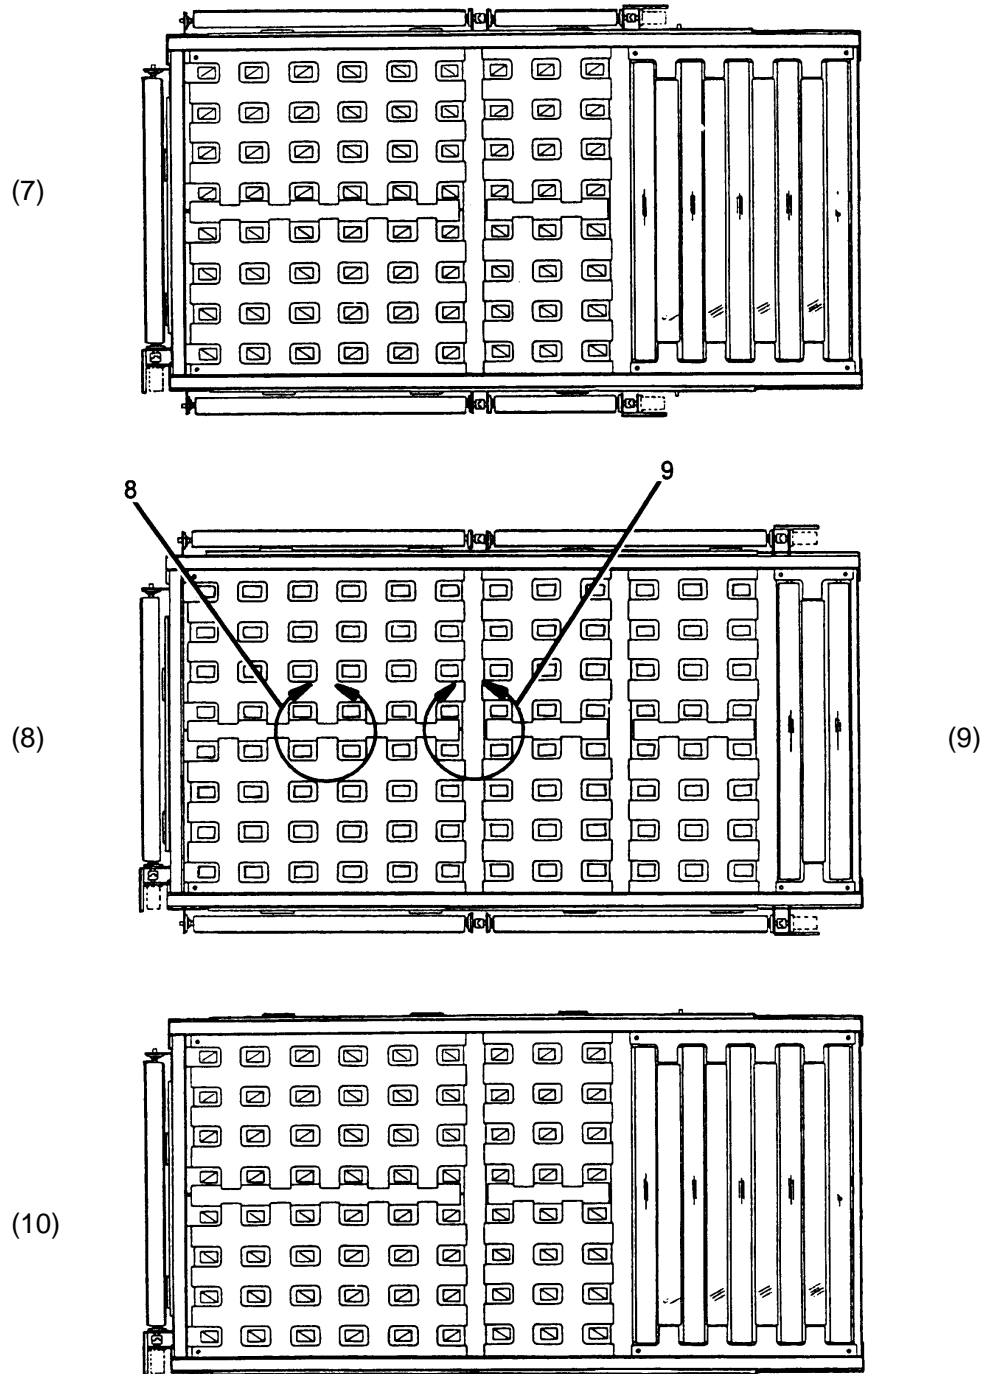

Figure 12
(7) Right & Left Side Pallet Load (Figure 12)
(8) Right & Left Pallet Side Shift Extended Side Load (Figure 12)
(9) Right & Left Pallet Side Shift Extended Side Load (Figure 12)
(10) End Load w/Pallet Side Shift Powered Guides (Figure 12)